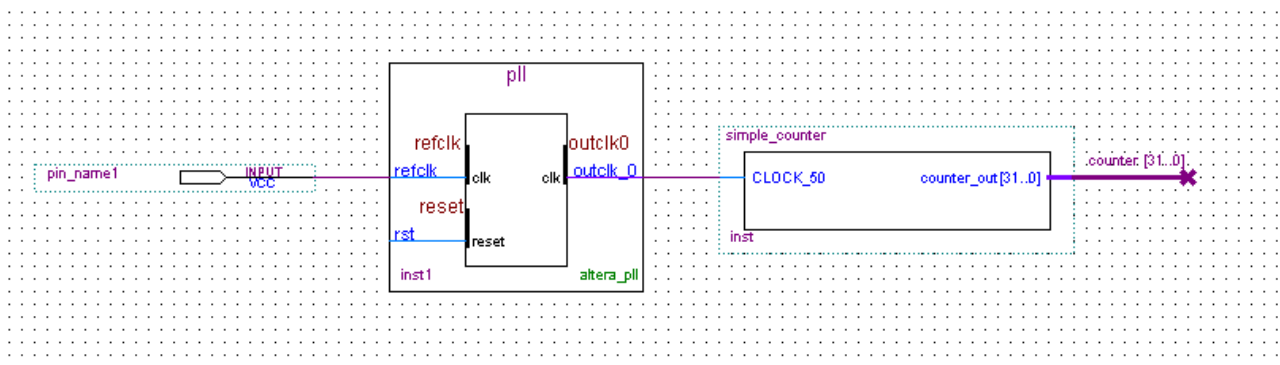

Figure 3-17 Connecting the PLL symbol and Input port
- e. Use the mouse to click and drag the new input pin to the left; notice that the ports remain connected as shown in **Figure 3-17**.